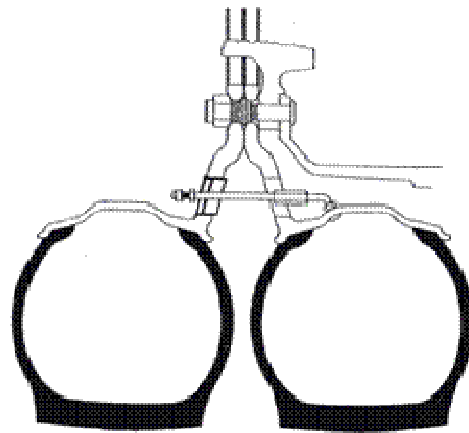

Fig. 6: Cross Section View of Dual Tires
**Tires:** A flat or under-inflated dual tire can become a fire hazard and in some cases go undetected. Dual tires are spaced apart to provide a gap (Fig. 6).